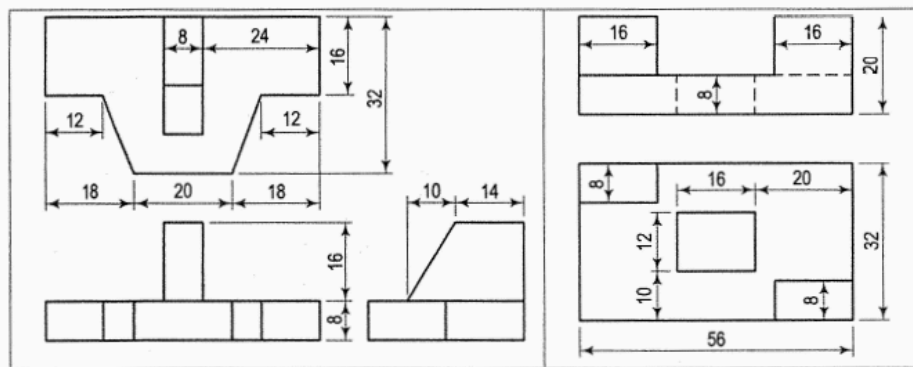

Fig.12.2
2. Draw the isometric view for the given orthographic views for Fig.12.2